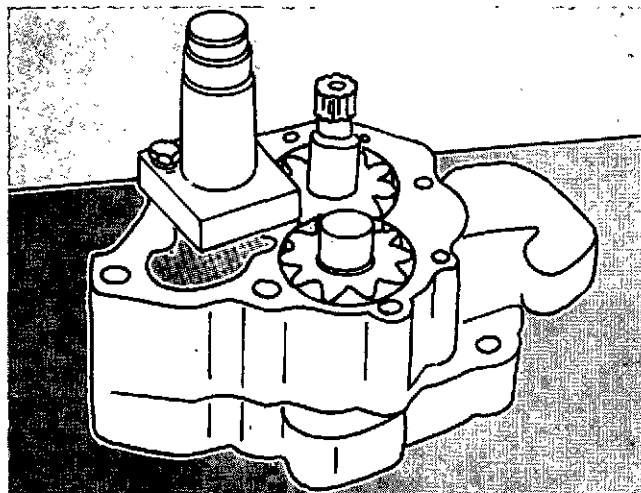

Fig. 7-9. Position The Locating Plate.
- c. Install the large diameter end of the mandrel into the locating plate to put the plate in the correct position on the body, Fig. 7-9. Tighten the capscrews and then remove the mandrel.